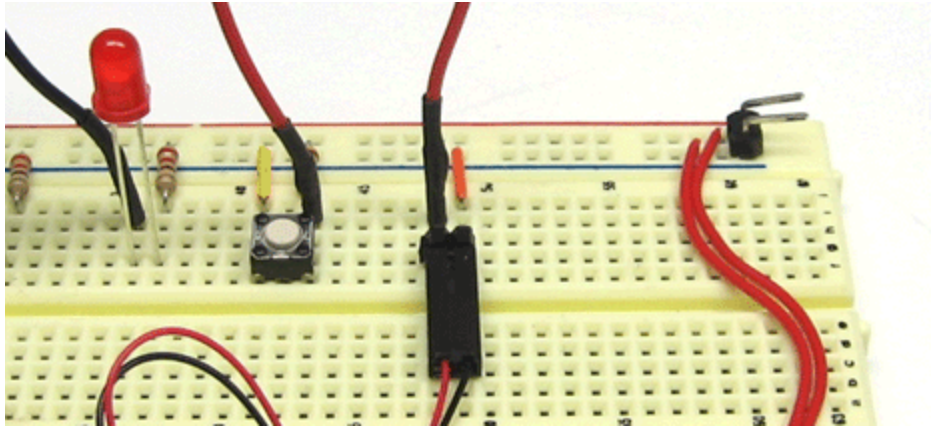

Figure 4. Connecting the speaker to the microcontroller.
2. Using a flexible jump wire, connect the red wire side of the speaker to Port 2 on the Arduino as shown in Figure 4. (If you need help finding Port 2, consult the Arduino Quick Reference at the end of this document.)